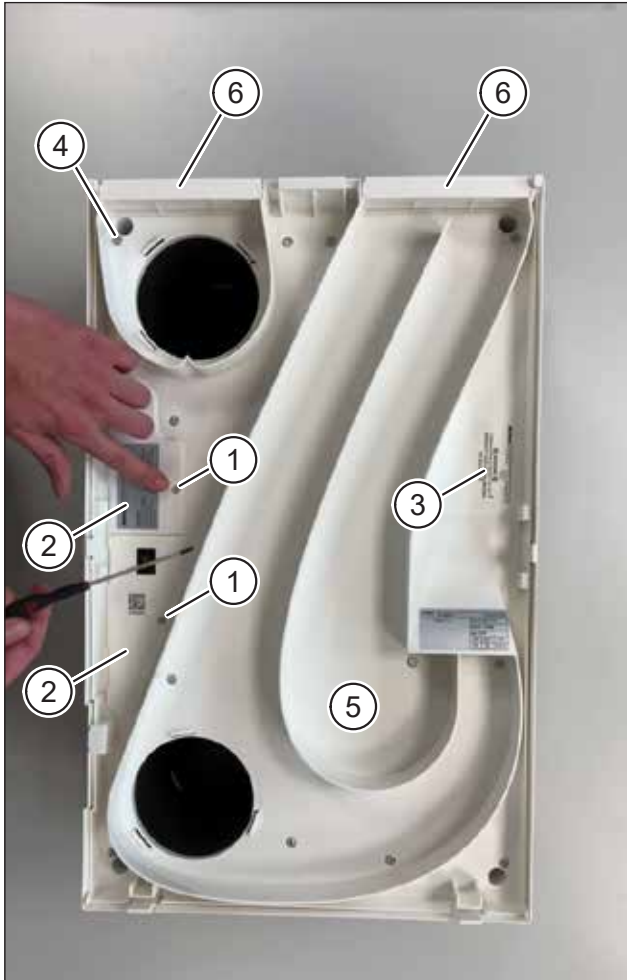

Fig. 3: Remove the electronics compartment covers and intermediate plate
- ▶ Use the Torx screwdriver TX10 to loosen the two screws (item 1 in Fig. 3) on the electronics compartment covers.
- ▶ Lift the two electronics compartment covers (item 2 in Fig. 3) away.
- ▶ Remove the seal (item 3 in Fig. 3) with a slotted screwdriver.
- ▶ Use the Torx screwdriver TX20 to loosen the 13 screws (item 4 in Fig. 3) on the intermediate plate.
- ▶ Lift up the intermediate plate (item 5 in Fig. 3) with the two air grilles (item 6 in Fig. 3).